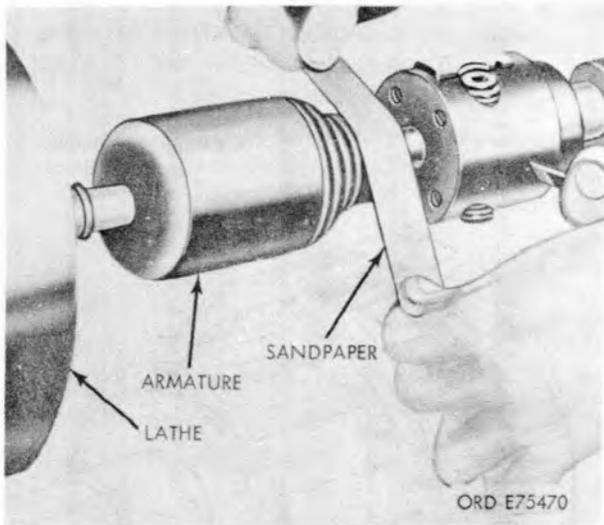
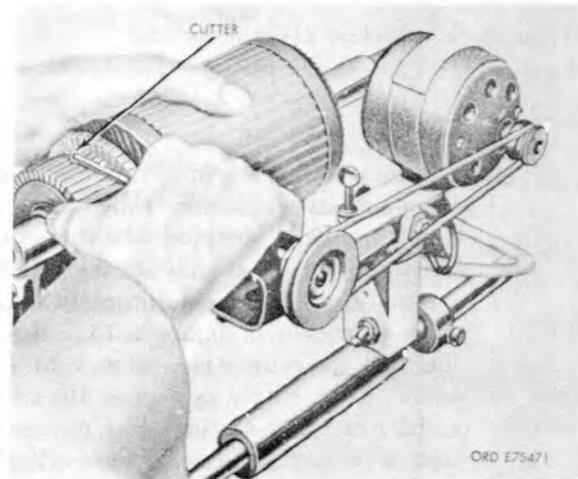

Figure 4-18. Removing burs with 00 sandpaper.
Figure 4-19. Undercutting commutator mica.
- (1) If commutator is worn, rough, out-of-round, or has high mica, filled slots, or burned spots, place the armature in a lathe and turn the commutator. Use a commutator cutting tool properly sharpened as shown in figure 4-15. Mount the tool as shown in figure 4-16 and 4-17. Take a light cut across the entire surface of commutator. Cut no deeper than necessary and smooth burs with size 00 sandpaper after cutting (fig. 4-18). Replace armature if diameter of reconditioned commutator is less than 2.150 inch. Undercut mica of reconditioned commutator to a depth of $\frac{1}{32}$ inch using an undercutter (fig. 4-19).